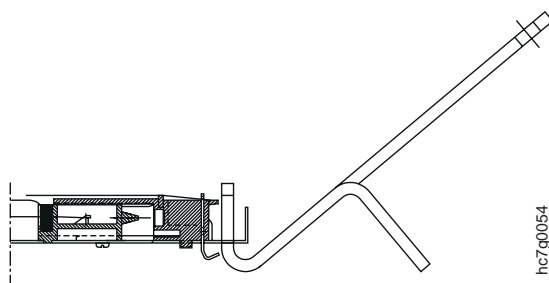

Figure 269. Grid Removal Tool
- a. Place the grid removal tool under the hook at the right side of the scorotron housing, as shown in Figure 269.